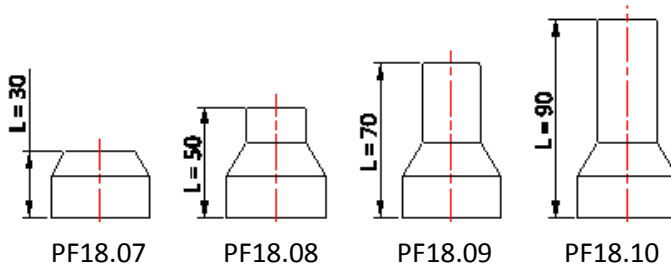

Fig.3 Spindle Length
- The vertical dimension "L" between bottom of base plate and top of door leaf is spindle length + 5mm (Fig. 3)